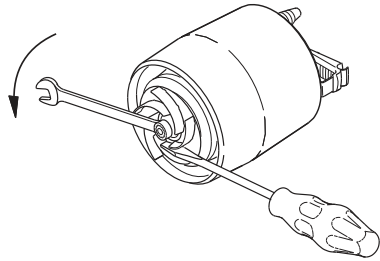

Fig. 14 How to remove the impeller
8. Unscrew the nut, cross width 13 mm, from the motor shaft. Use a screwdriver to prevent the impeller from rotating. See fig. 14.